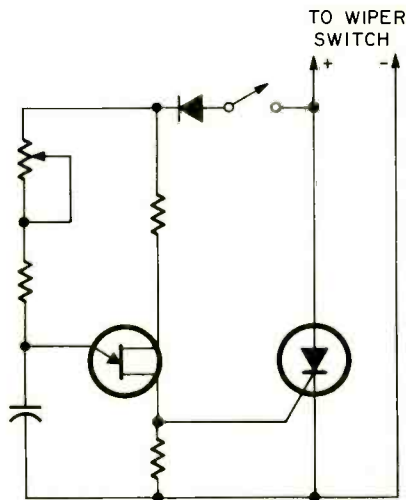

FIG. 1—BASIC WIPER-PAUSE CONTROL. This circuit won't work on many new cars.
A typical circuit is shown in Fig. 1. This arrangement is simple, efficient and does the job well; but does not work for all cars. This circuit will not work on many late-model General Motors (GM) that use self-reversing motors to park the wiper blades in a recessed or depressed position. This happens because the type of controller in Fig. 1 is turned off by the short-circuit which appears across the SCR after the windshield wiper motor has been activated and the wiper cam-driven switch has "taken over" control of the motor. Remember, the SCR latches on positively and will not turn off unless conduction is stopped in some way. The wiper cam-driven switch does this by shorting out the SCR. Now the SCR is in a nonconducting state until once again activated by the next UJT pulse. The GM type wiper assemblies mentioned above have a combination relay and latching mechanism to control the motor. This type of arrangement will *not* turn off the SCR and when used with the circuit shown in Fig. 1, allows the wiper to run contin-